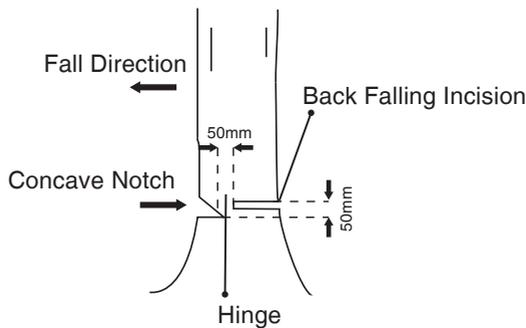

Figure 5
- (See Figure 5 for guidance.)